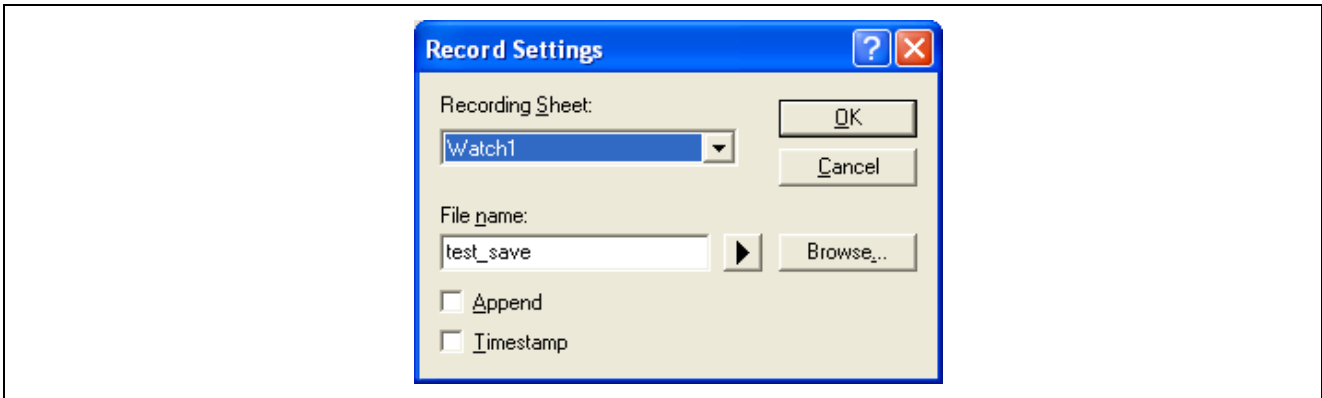

Figure 4.32 [Record Settings] Dialog Box
(12)When recording is started, the [Record Settings] dialog box shown in Figure 4.32 will appear.